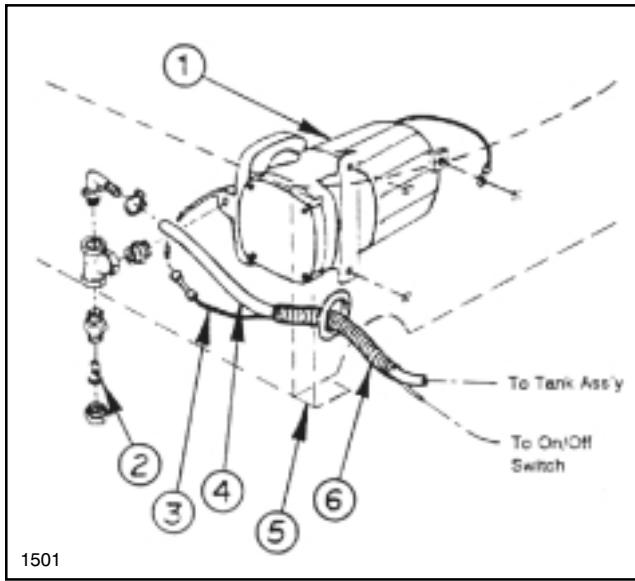

FIG. 3
16. Mount the foam marker tank and bracket assembly to the mounting bracket with (2) 1/4" flatwashers and (2) 1/4" lockwashers.
17. Assemble the compressor complete as shown in FIG. 3. Connect the 48" hose to the barb fitting on the compressor. Secure with a hose clamp.
18. Install the (2) grommets into the front and rear hose cutouts on tank/skid assembly.
19. Mount the compressor underneath the right front corner of the tank/skid assembly with (3) #8 self-tapping screws (FIG. 3). Ground the ring terminal on the black compressor wire to one of the mounting screws.
20 Locate the orange auxiliary wire and insert the stripped end of the red compressor wire into the butt splice connector on the auxiliary wire. Crimp the connector (FIG. 3).
23. Place the 48" x 3/4" black plastic loom over the wiring harness and the connector hose between foam tank and compressor (FIG. 3).